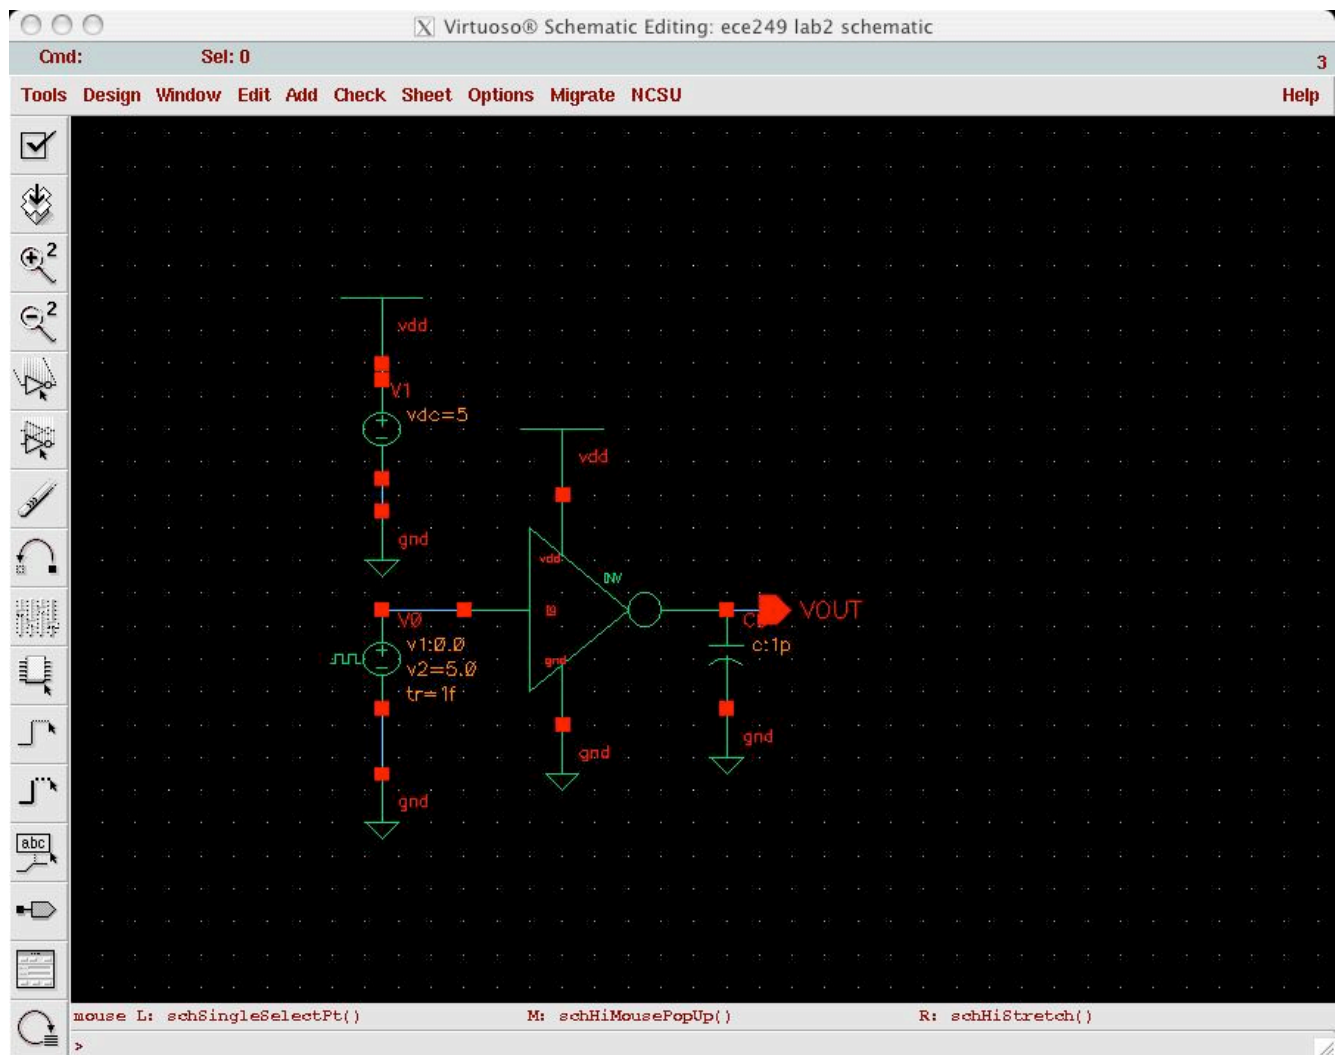

Fig. 5. Single inverter with capacitor.
Step 4: Add a 1pF capacitor from the **analogLib** library to the output as shown in Figure 5.